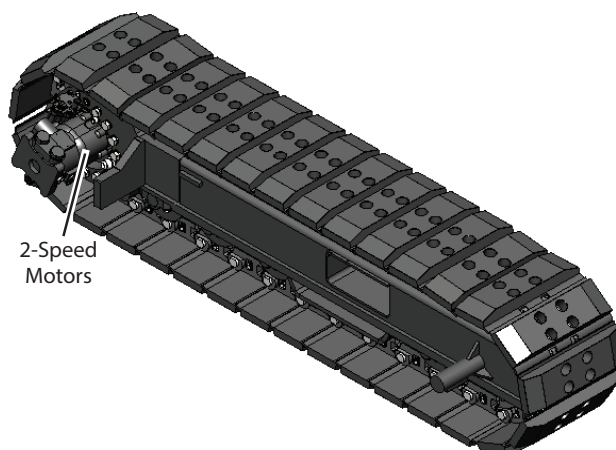

Figure 5-36. Two-Speed Hydraulic Motors
2. Disconnect, label and plug fittings on hydraulic hoses to the hydraulic motors. (Figure 5-36)